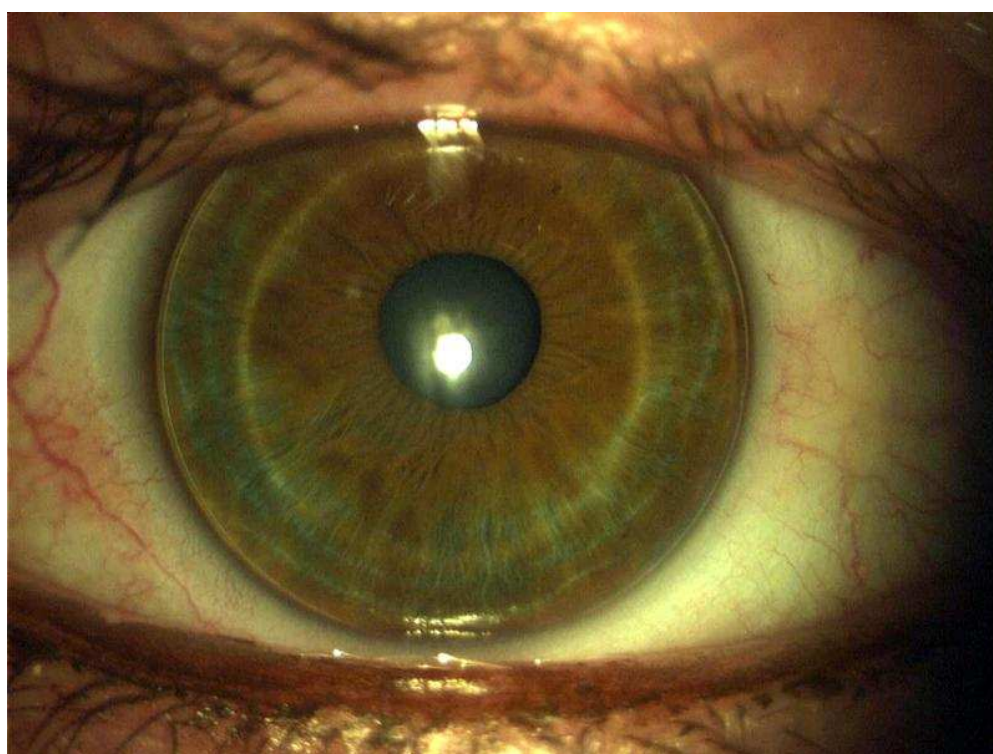

Figure 3: Dramatic decrease in redness of the conjunctiva, with the perilimbal (R)GP in place
The new (R)GP design calculated for this patient was a PERIT lens from Falco (Switzerland), which is a perilimbal or intralimbal design, with a standard diameter of 11.2mm (all parameters can be ordered individually). With this lens the conjunctival hyperemia decreased after 1 week to grade 0-1 for the temporal region, whereas the nasal region still presented minor redness of grade 1-2 due to minor but persistent conjunctival staining. The patient's subjective response was just amazing. Her wearing time increased to up to 16 hours a day, and the foreign body sensation and dryness symptoms disappeared completely (Figure 3).